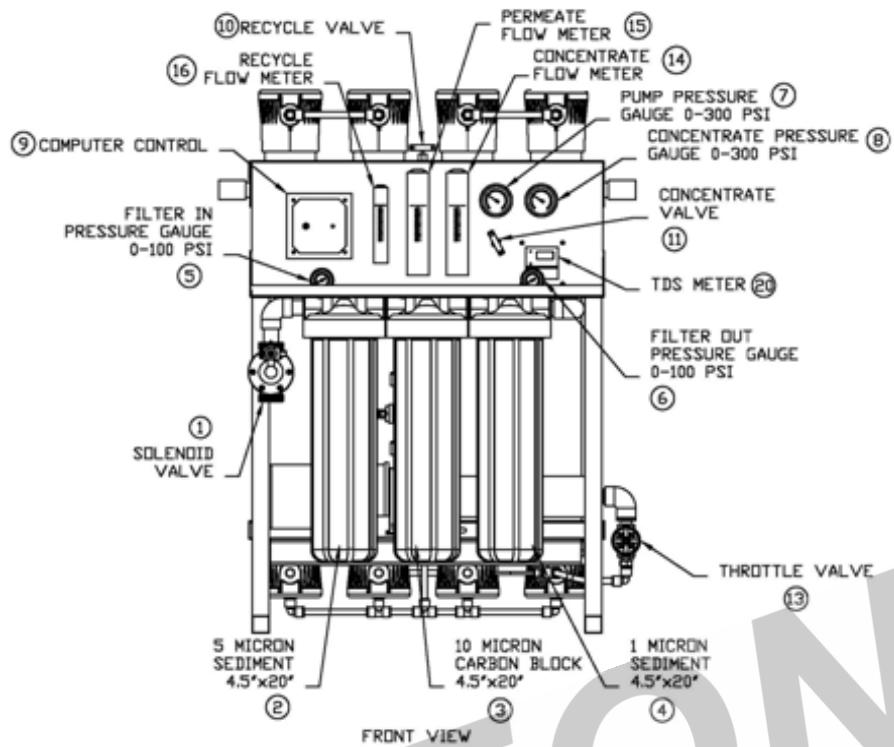

FIGURE 1B
2. Fully open the concentrate valve #11 (counter clockwise). (Figure 1B, Page 17)
3. Fully close the recycle valve # 10 (clockwise) (if applicable). (Figure 1B, Page 17)
5. Turn the feed water on and let the system purge until no visible bubbles appear from concentrate flow meter #15. (Figure 1B, Page 17)
6. Fully open the throttle valve #13 (counter clockwise). (Figure 1B, Page 17)
3. Fully close the recycle valve # 10(clockwise)(if applicable). (Figure 1B, Page 17)
4. Fully open the throttle valve #13 (counter clockwise). (Figure 1B, Page 17)